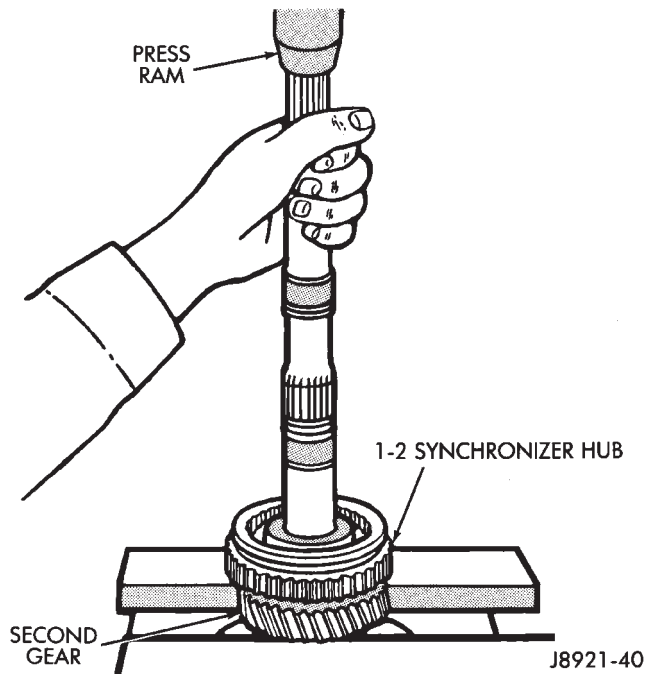
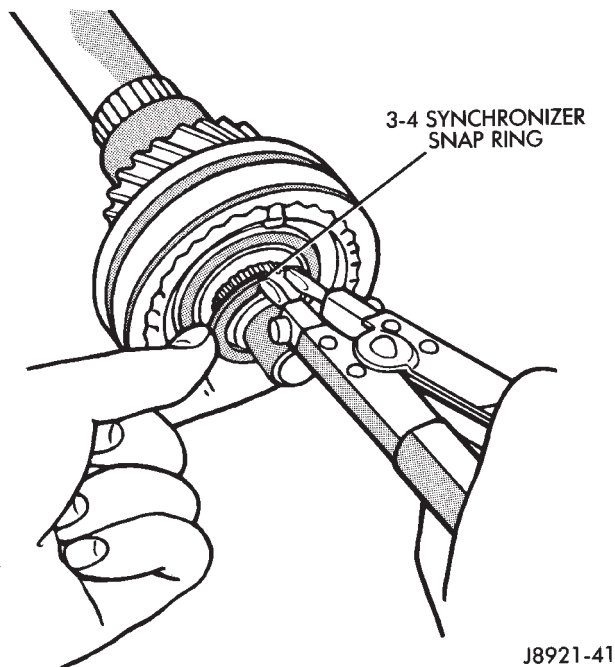

Fig. 115 Remove Second Gear And 1-2 Synchronizer/Reverse Gear
Fig. 116 Remove 3-4 Synchronizer Snap Ring
- (5) Remove first gear thrust washer locating pin from output shaft.
- (6) Remove first gear needle roller bearing from output shaft.
- (7) Remove first gear spacer from output shaft.
- (8) Remove first gear synchronizer ring.
- (9) Remove select fit snap-ring holding the 1-2 synchronizer/reverse gear onto the output shaft.
- (10) Using Bearing Splitter P-334 or suitable press plates positioned under second gear, press 1-2 synchronizer/reverse gear and second gear from output shaft (Fig. 115).
- (11) Remove second gear needle roller bearing from the output shaft or second gear.
- (12) Remove select fit snap-ring holding the 3-4 synchronizer onto the output shaft (Fig. 116).